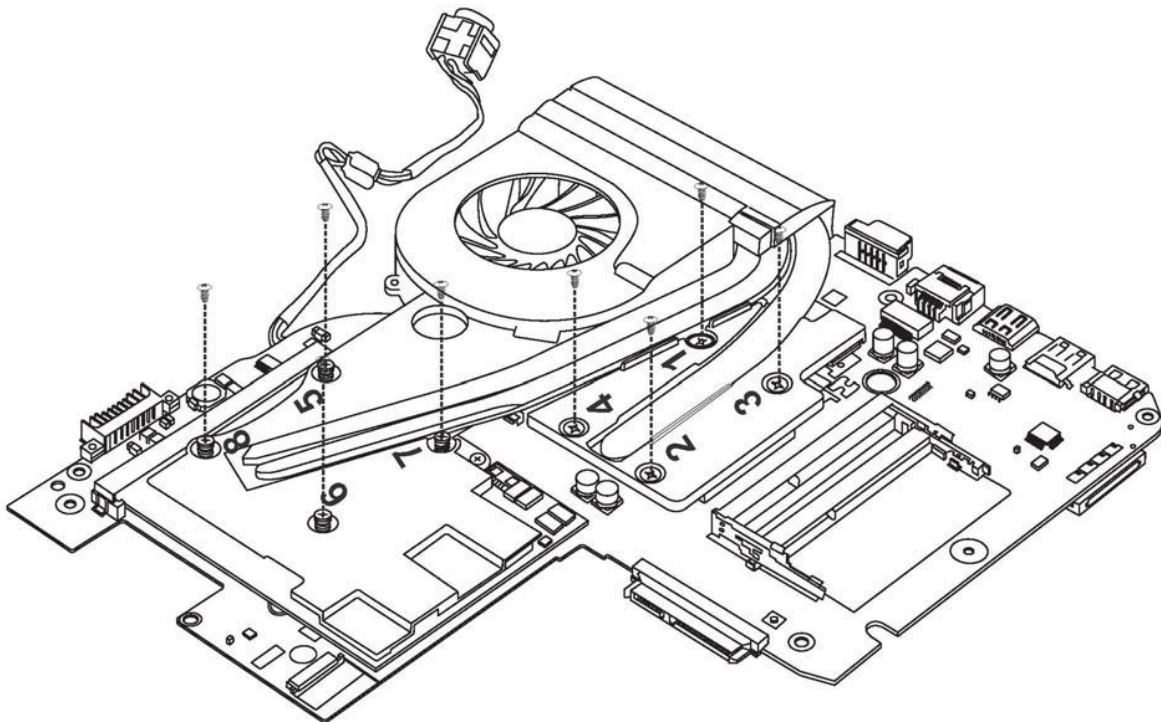

Figure 4-27 Removing the Thermal Module spring screws
Remove the CPU thermal module according to the following procedures and Figure 4-27.
1. Remove the eight spring screws securing the thermal module in the sequence indicated in Figure 4-27.